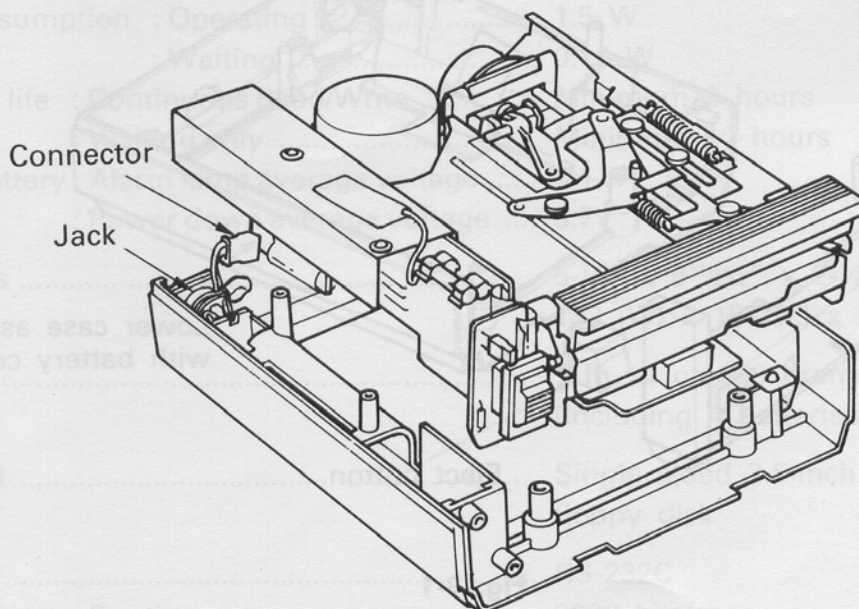

Fig. 3-4
10. Remove the connector that connects the jack and the power PCB (Fig. 3-4).